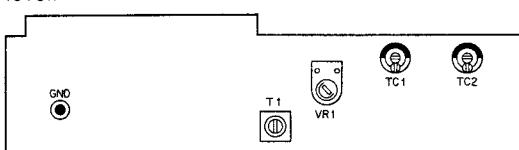

Fig. 36 CAR 1 unit
3) Adjust MIN GAIN until output becomes 50W and set the AG frequency to 250 Hz. Adjust VR1 in CAR1 unit (X50-1310-00) until RF VTVM reading is kept unchanged even when the MODE switch is changed over from USB to LSB and vice versa (refer to **Fig. 36**).